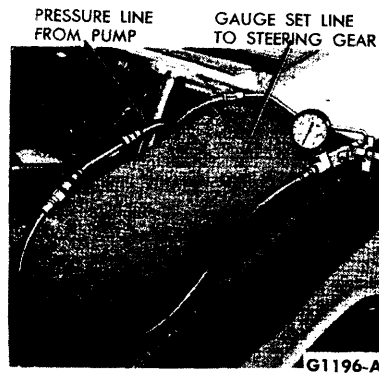

FIG. 2—Pressure Testing Gauge Installation
1. To check the pump pressure, disconnect the pressure line (upper line) at the steering gear. Connect the modified pressure-testing gauge assembly, tool 3500-E, between the pressure line from the pump and the steering gear. (See Fig. 2.)